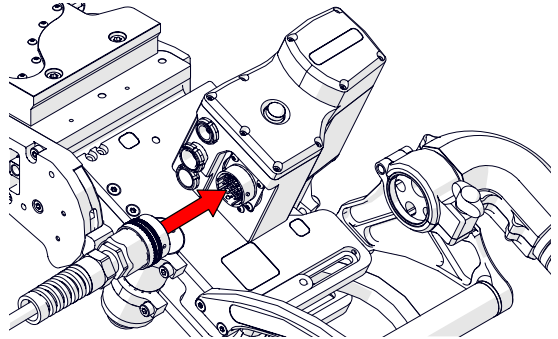

Fig. 72 - Press to umbilical connection
1. Press the umbilical to the umbilical connection of the motor can (Fig. 72).